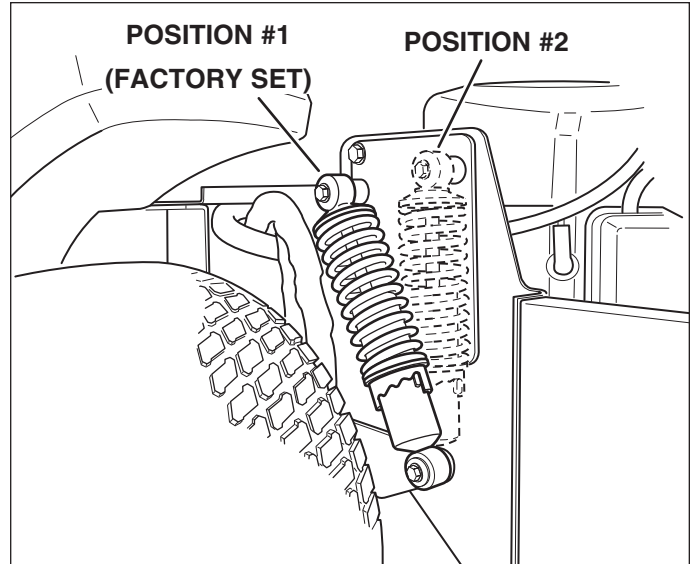

Figure 39. Rear Suspension Adjustments
4. See Figure 39. Using the supplied spanner wrench (p/n 5022853), insert the tip of the wrench into the notch in the pre-load adjuster. While holding the wrench in place with one hand, turn COUNTER-CLOCKWISE to increase the pre-load, turn CLOCKWISE to decrease the pre-load. Make sure both shocks are set to the same amount of pre-load.
4. Remove the upper shock mounting hardware and pivot the shock to the position #2 (see Figure 39). Adjust the jack to align the shock mounts to the shocks.